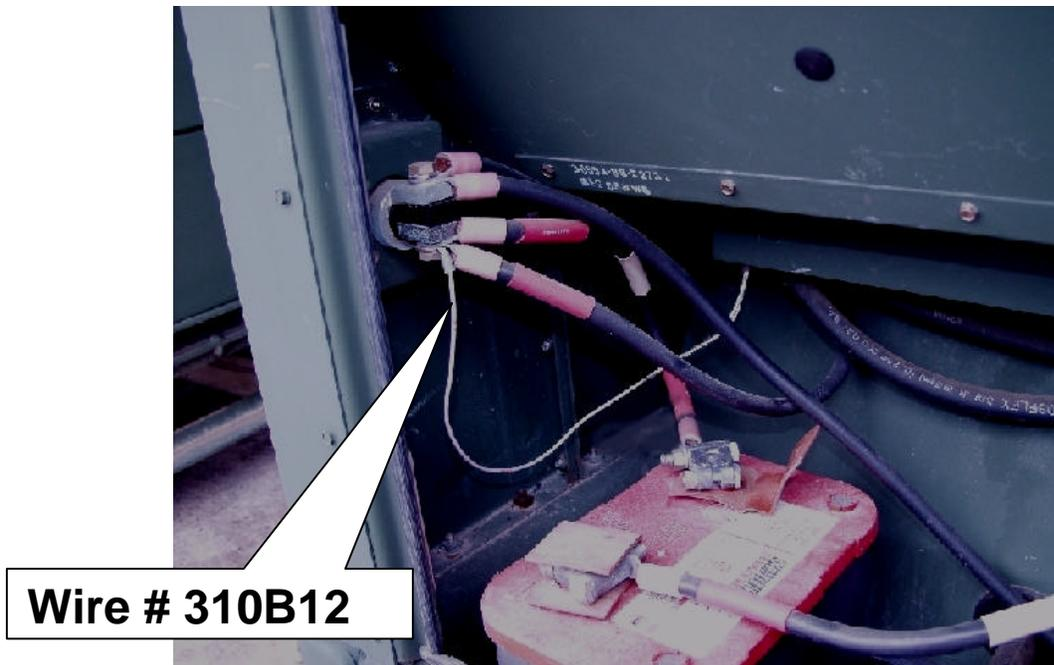

Figure 6 Modified Battery Compartment
14. Following the wire harness as much as possible, attach the 3/8 inch lug terminal of wire # 310B12 to the positive terminal of the NATO slave receptacle (SR1) as shown in figure 6. Add wire ties as necessary.